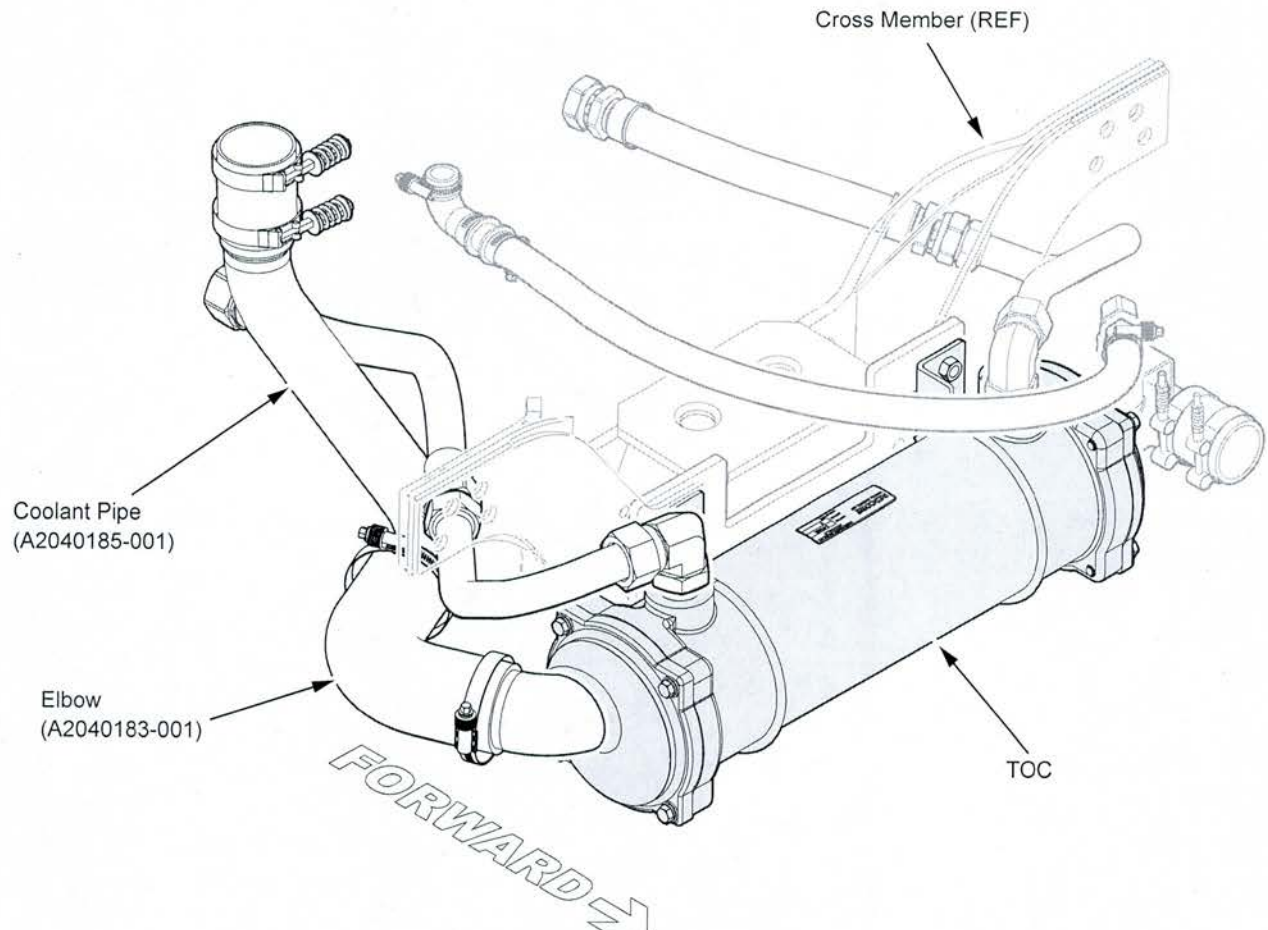

**Figure 11**
20. On the LH side of the TOC, install the hose (02-7118457) and 2 hose clamps (see Figure 11).